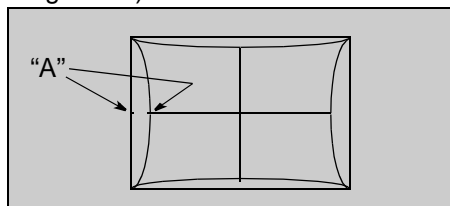

Figure 33. Pincushion Adjustment
4. Adjust DAC PCC (Pincushion) by pressing VOL right/left and confirm that size is $17 \pm 5\text{mm}$ at "A" (See Figure 33)